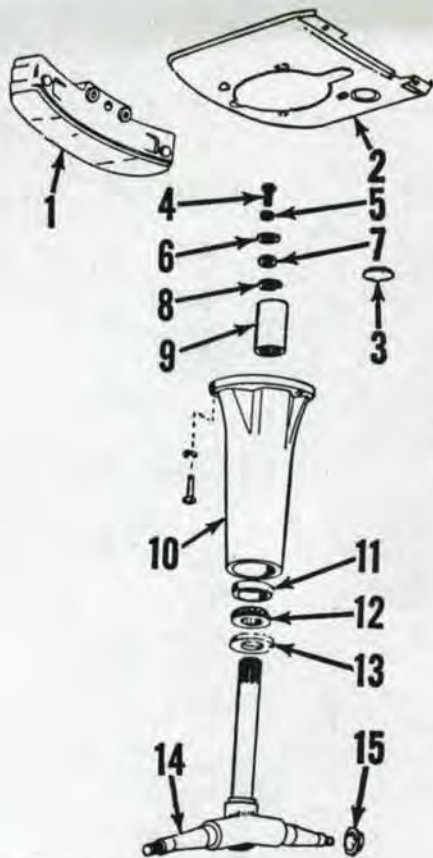

Fig. AC3 — Exploded view of dual wheel pedestal and associated parts.
Fig. AC3). Place spacer on spindle with flange of spacer against shoulder on spindle. Install seal over spacer with crimped edge of seal shell towards spacer (lettered side of shell towards bearing).
**4. PEDESTAL.** Dual wheel pedestal (10—Fig. AC3) can be unbolted and removed from the sector shaft bearing retainer (62—Fig. AC6 or Fig. AC16) after raising front end of tractor.
To disassemble pedestal, remove cap screw (4—Fig. AC3), lock washer (5), flat washer (6), shims (7) and sleeve (9) with internal snap ring (8). Spindle (14), seal (13) and bearing cone (12) can then be removed from bottom end of pedestal. Drive bearing cup (11) from bottom of pedestal and bearing cone from spindle.